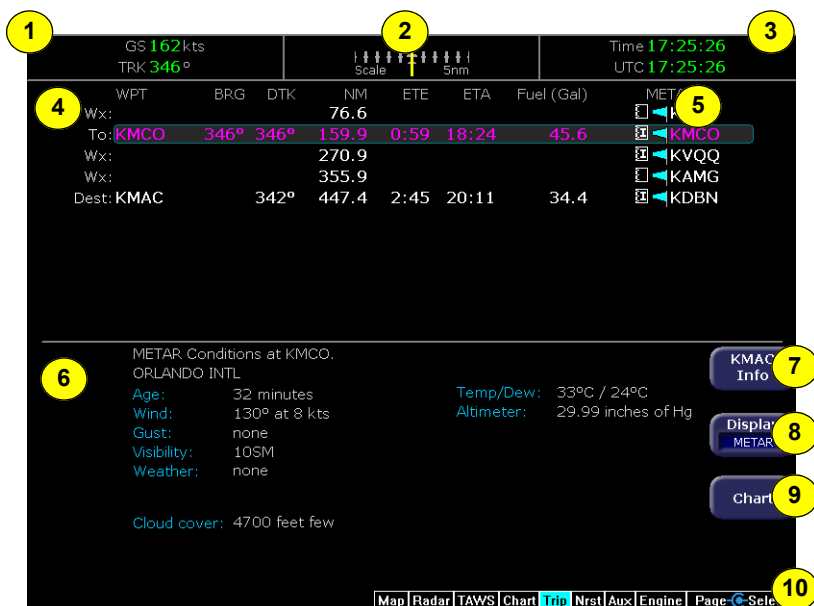

Figure 7.1 Trip Page Information with METAR Display
- **METAR**—Displays the decoded text METAR, as shown in Figure 7.1, for the selected waypoint, when available. If METAR cannot be decoded, raw text METAR will be displayed.